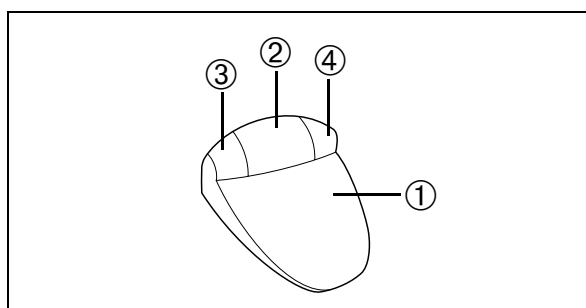

Fig. 32
The speed is pre-selected using the left-hand ③ and right-hand ④ buttons on the foot control (Fig. 32).
- Holding down the left-hand button ③ (Fig. 32):
- Holding down the right-hand button ④ (Fig. 32):